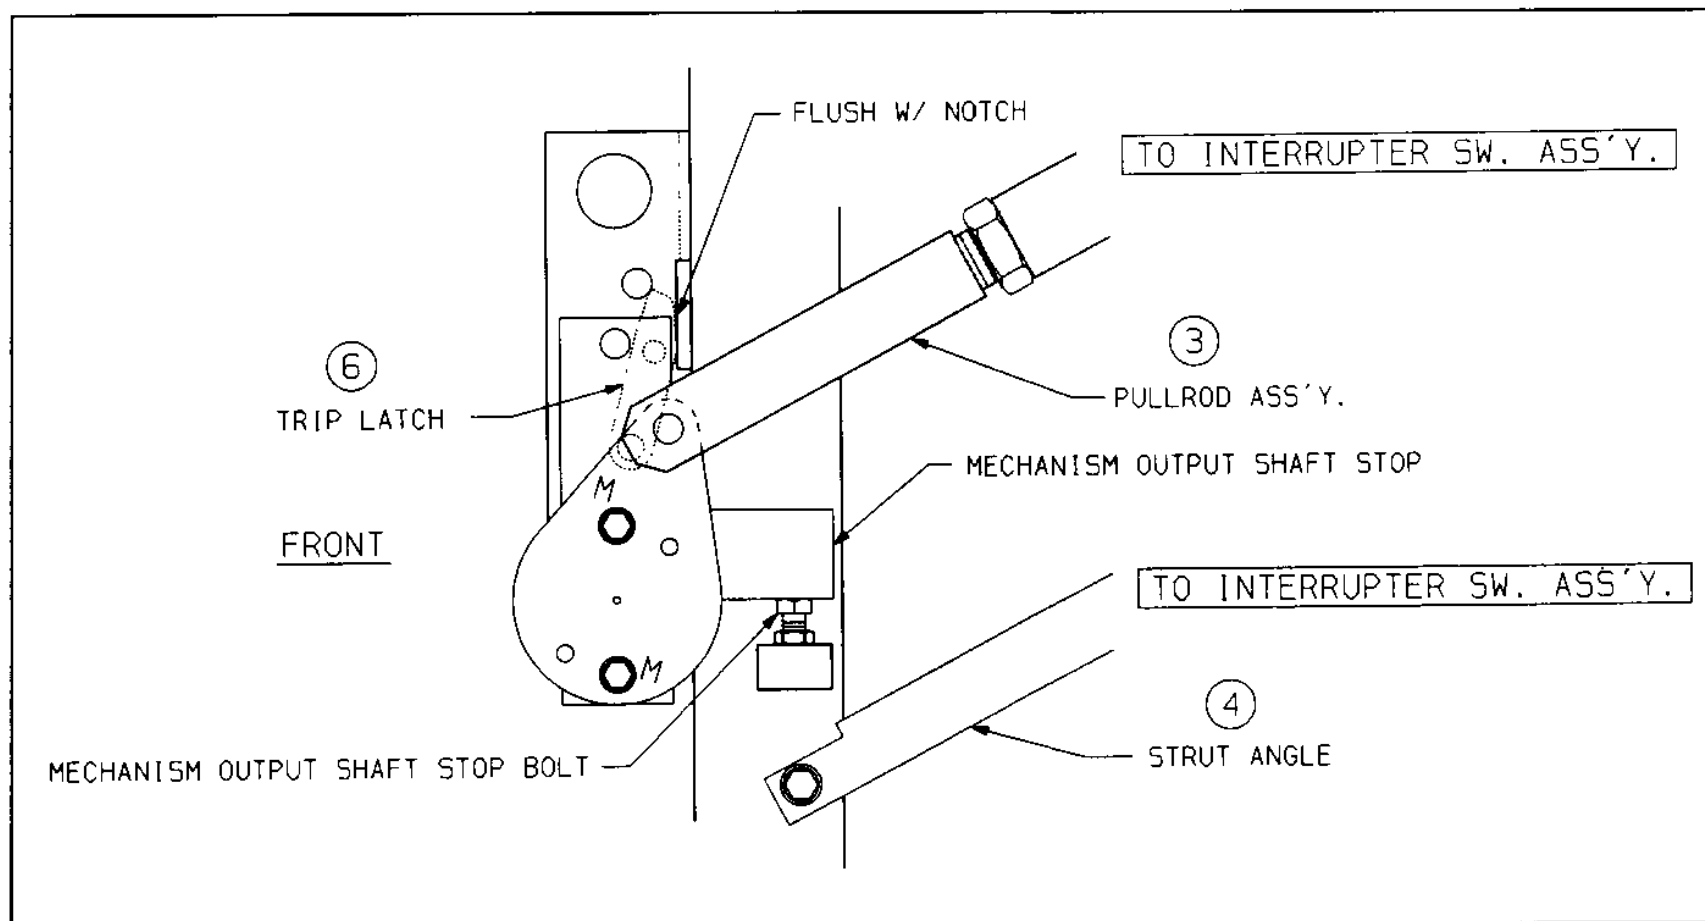

Figure 9a
d. Check to see that the back edge of the trip latch (#6) is flush with the notch in the mechanism housing frame (Figure 9A). If not flush, adjust mechanism output shaft stop bolt (either "up" or "down") until the trip latch is flush with the notch (Figure 9A).